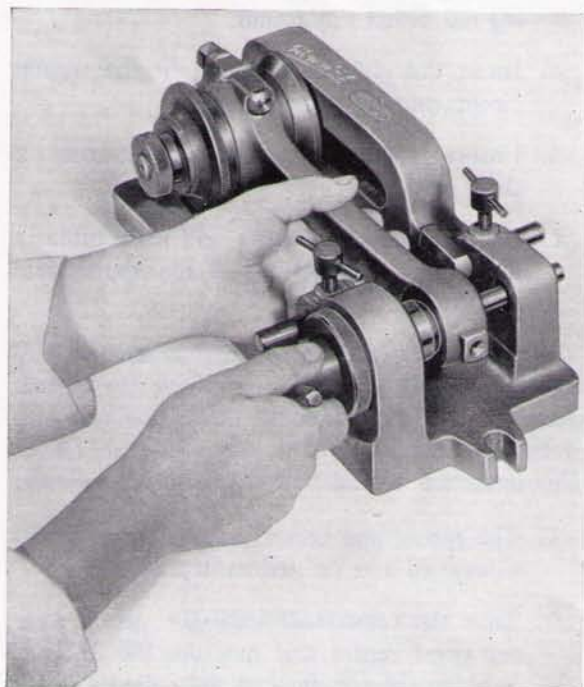

Fig. J.7.
2. Remove the slip bush and pass the centraliser with bearing surfaces oiled, through the bushes of the fixture and small end bush of the connecting rod until there is a small even clearance between the small end and centraliser. (See Fig. J.7).